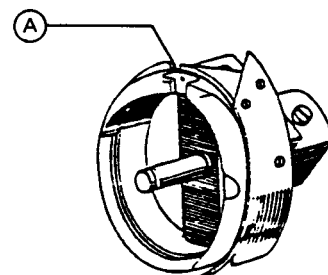

Fig. 24
(1) Use the undertrimmer hook which has the bobbin thread guide slit (A) as shown in Fig. 24.